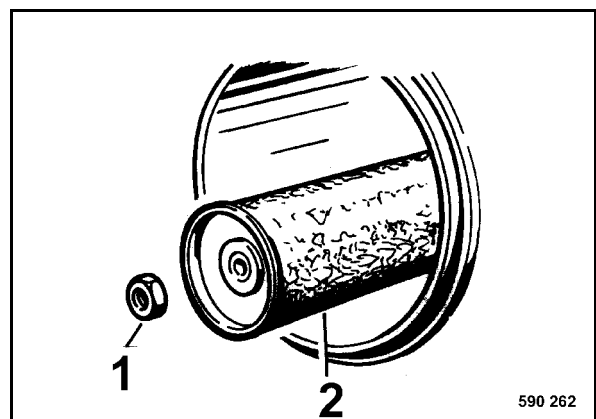

Fig. 28
- Unscrew hexagon nut 1 (Fig. 28) and pull safety cartridge (2) out.